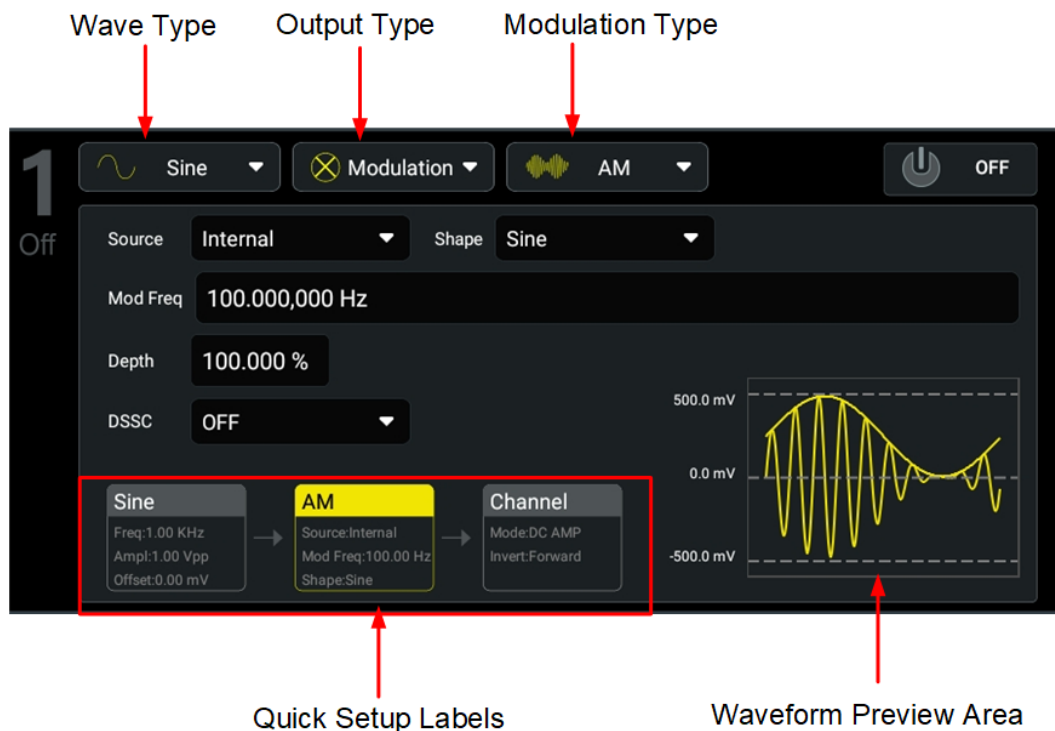

Figure 21.4 Modulation Mode Interface
In Amplitude Modulation (AM), a modulated waveform consists of a carrier waveform and a modulation waveform. The amplitude of the carrier waveform is varied by the instantaneous voltage of the modulating waveform. In *Figure 21.4* interface, click or tap the "Modulation Type" drop-down button to select "AM" and set its parameters.
In Frequency Modulation (FM), a modulated waveform consists of a carrier waveform and a modulating waveform. The frequency of the carrier waveform is varied by the instantaneous voltage of the modulating waveform. In Figure 21.4 interface, click or tap the "Modulation Type" drop-down button to select "FM" and set its parameters.
In Phase Modulation (PM), a modulated waveform consists of a carrier waveform and a modulation waveform. The phase of the carrier waveform is varied by the instantaneous voltage of the modulating waveform. In Figure 21.4 interface, click or tap the "Modulation Type" drop-down button to select "PM" and set its parameters.
With Amplitude Shift Keying (ASK), you can configure the instrument to "shift" its output amplitude between two preset values (called the "carrier amplitude" and the "modulation amplitude"). In Figure 21.4 interface, click or tap the "Modulation Type" drop-down button to select "ASK" and set its parameters.
With Frequency Shift Keying (FSK), you can configure the instrument to "shift" its output frequency between two preset values (called the "carrier frequency" and the "hop frequency"). In *Figure 21.4* interface, click or tap the "Modulation Type" drop-down button to select "FSK" and set its parameters.
In Phase Shift Keying (PSK), the carrier waveform is phase "shifted" between two phase settings ("carrier phase" and "modulation phase"). In Figure 21.4 interface, click or tap the "Modulation Type" drop-down button to select "PSK" and set its parameters.